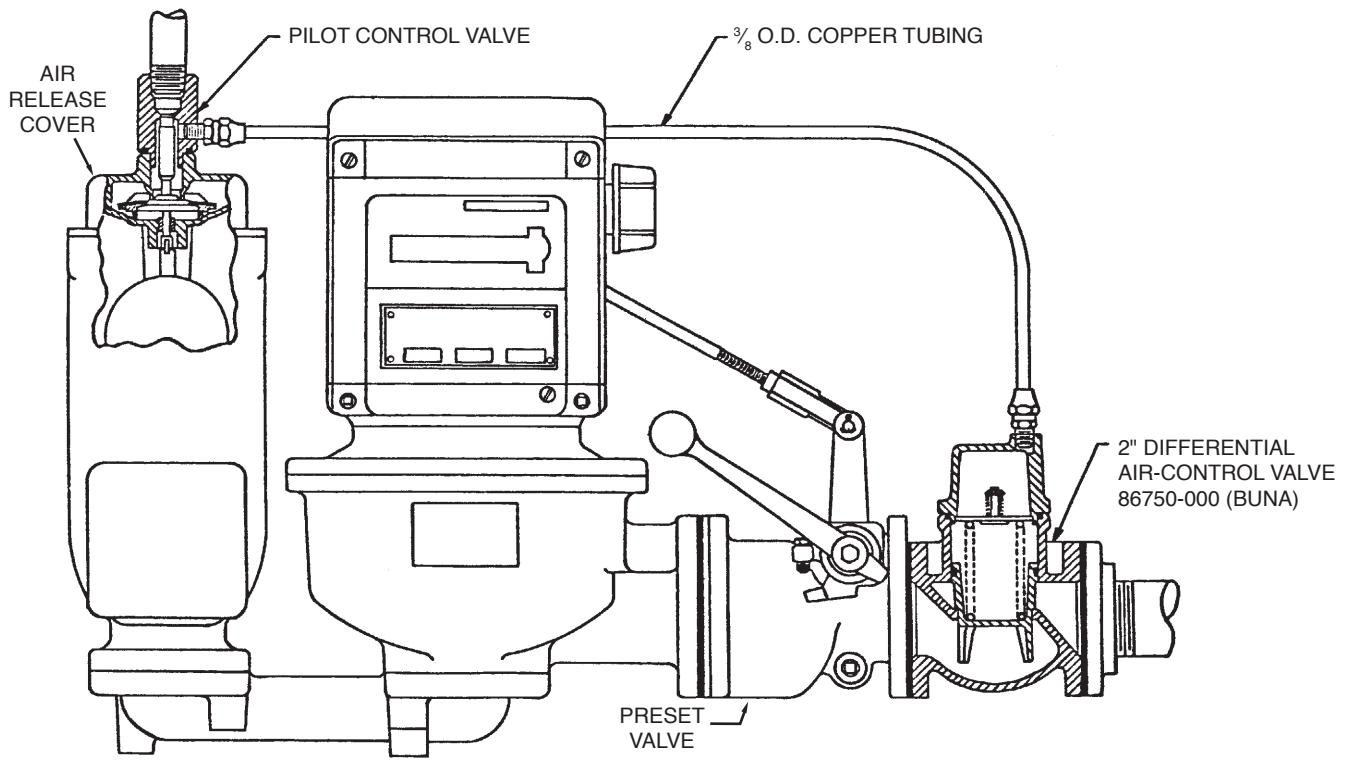

FIGURE 2
1. Mount the valve downstream of the flowmeter. The valve is designed to be bolted directly to the preset valve outlet (see Fig. 2). However, the valve may be mounted anywhere downstream. Standard 2" 150lb. ANSI type flanges (installer supplied) can be bolted directly to the valve as required for mounting.